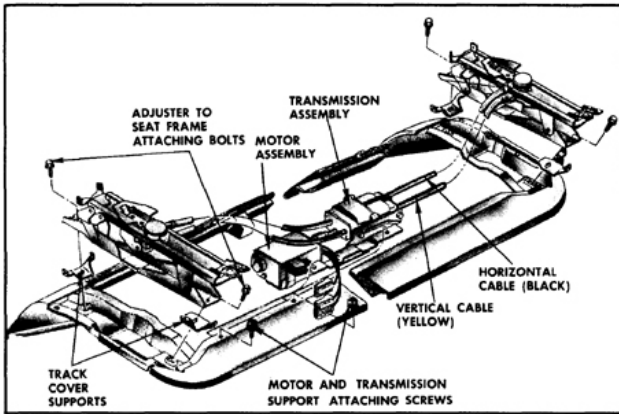

Fig. 16-384 Four-Way Seat Assembly
2. Remove front seat assembly from body with attached adjusters, motor and transmission and place upside down on a clean, protected surface. (Fig. 16-384)
1. Remove front seat assembly as previously described and place upside down on a clean, protected surface. (Fig. 16-384)